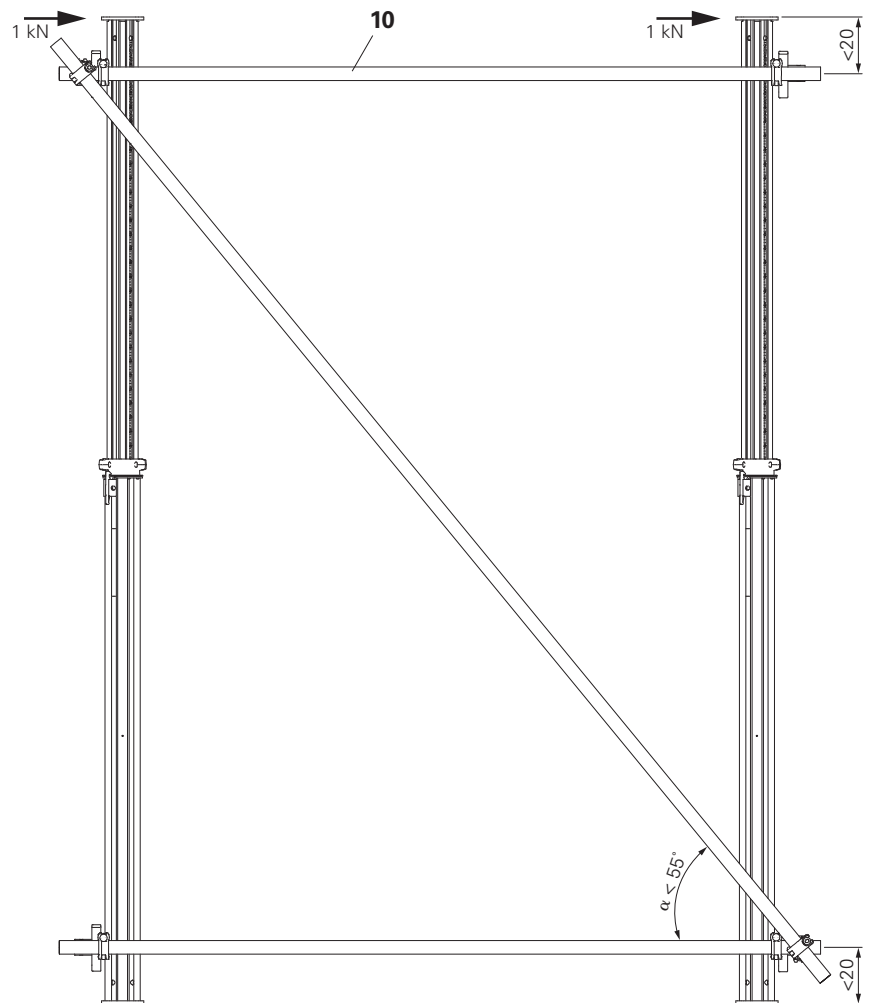

Fig. B1.01
- They are installed in segments and towers, and are designed to stabilise the MULTIPROP MP. (Fig. B1.01)